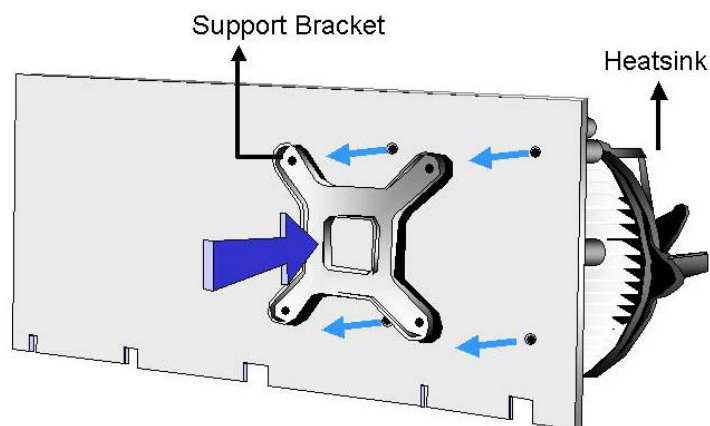

Figure 5-6: Securing the Heat sink to the PCB Board
- Step 4:** Secure the cooling kit. From the solder side of the PCB, align the support bracket to the screw threads on heat sink that were inserted through the PCB holes. (See Figure 5-6)